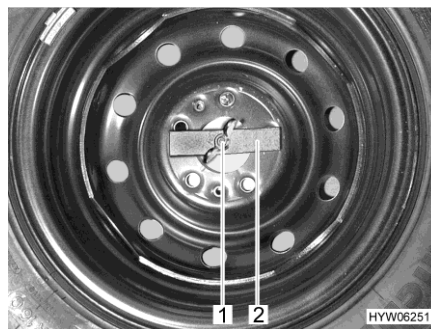

Fig. 240 Spare wheel in the rear storage space
- Loosen the wing nut (Fig. 240,1) by hand and unscrew it.
- Remove the pad (Fig. 240,2).